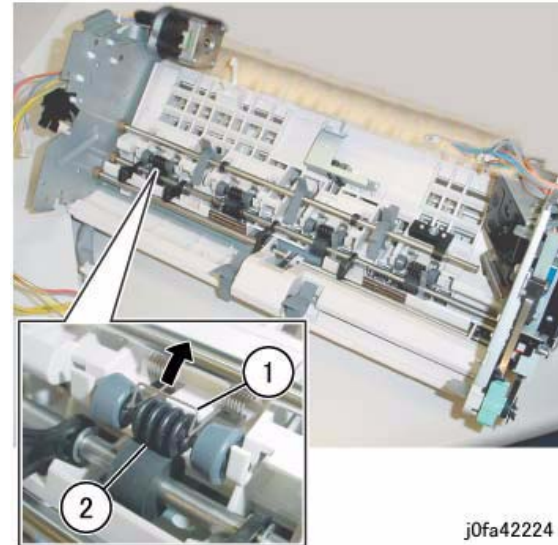

Figure 1 Removing the Pinch Rolls
4. Remove the Pinch Roll (Figure 1):